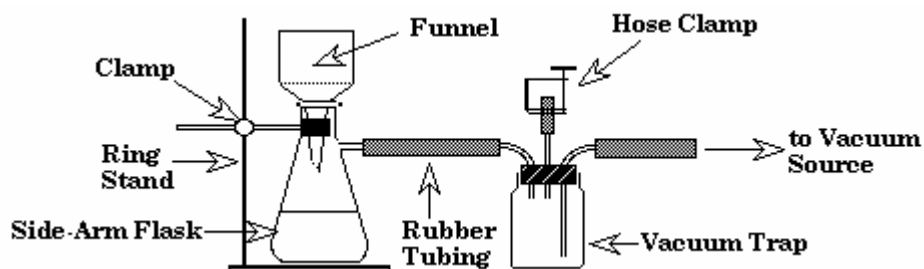

Figure 1: Suction trap
4. Prepare a suction trap (**Figure 1**) from the vacuum flask, which will be used later to filter the soap preparation. Bend a long piece of glass tubing into a right angle (instructor will demonstrate), and push one leg of the bend through a one-hole rubber stopper fitted for the mouth of the flask. When inserted, the glass tube should extend to about $\frac{1}{2}$ inch from the bottom of the flask. The exposed leg of the bend should be cut off at about 3 inches from the bend, and, by means of a piece of rubber connector tubing, be attached to a 12-inch length of glass tubing. The side-arm of the vacuum